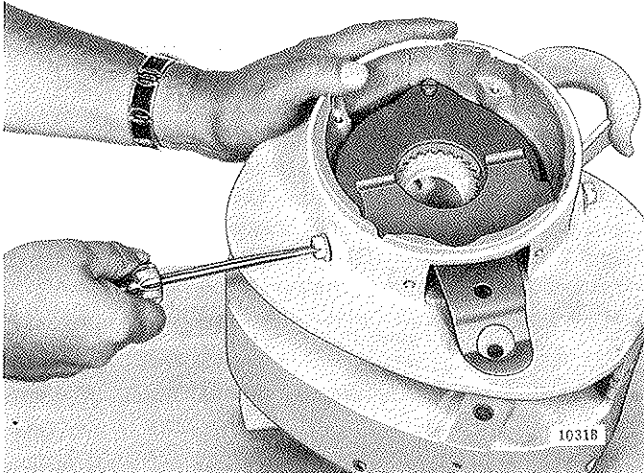
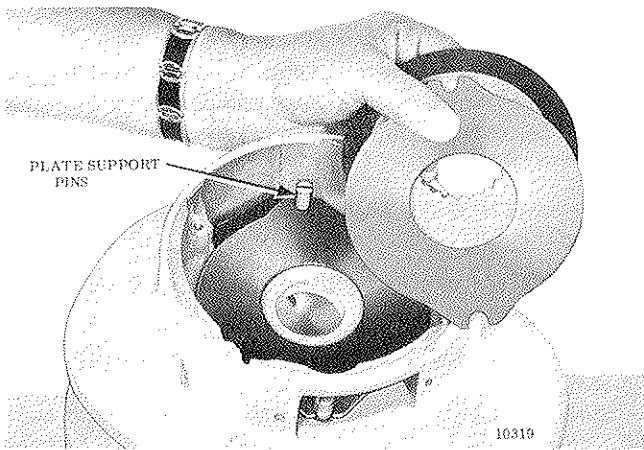

Figure 7-13. Removing Manual Brake Lever Pivot Screws
Figure 7-14. Removing Manual Brake Lever, Plates and Discs
(3) Remove lever pivot screws (fig. 7-13) and lift lever, friction plates and friction discs from inside hoist frame (fig. 7-14). Do not remove plate support pins from frame unless replacement is necessary.